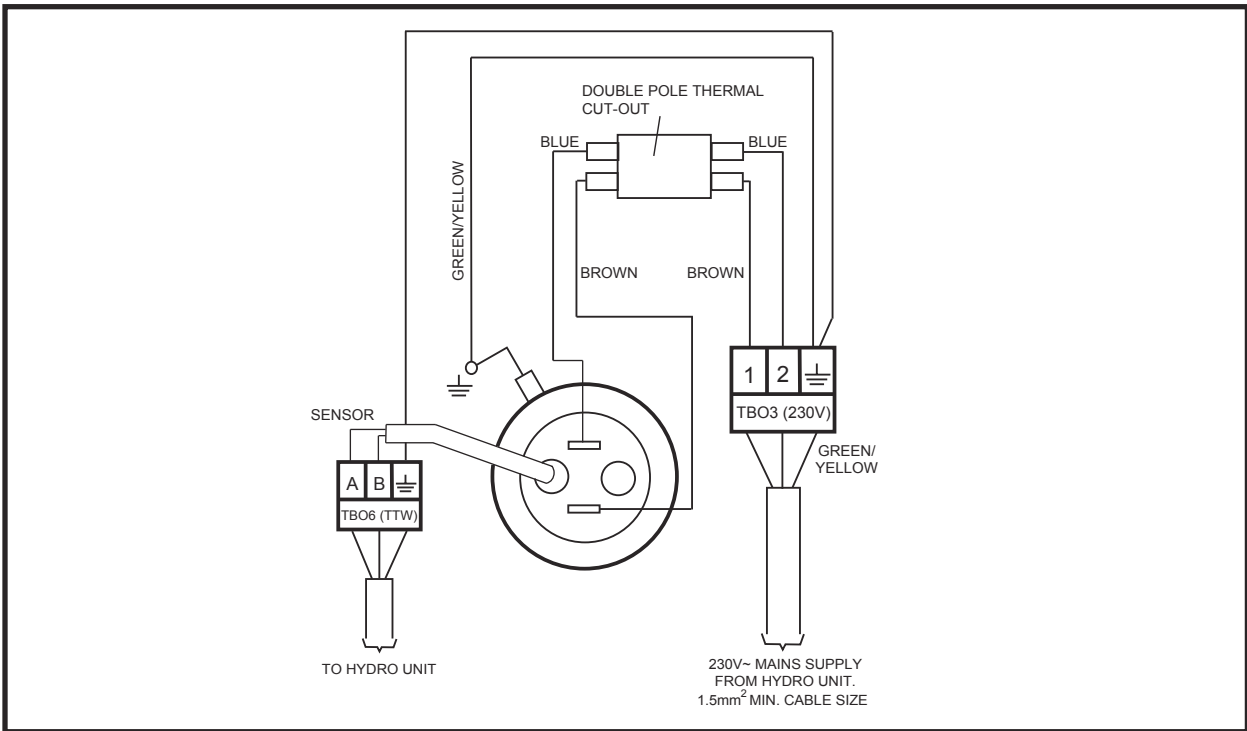

FIG. 6 Electrical Connections (Schematic)
4.2 ELECTRICAL SUPPLY (FIG. 6)
Replace the cylinder heater ensuring the element tails are in the vertical plane (see Fig. 6). Secure in place by re-fitting cylinder heater backnut and tightening. Replace the element tail insulating shroud by carefully pushing it over the element tails until it sits flush with the face of the element mounting plate. Replace the thermal cut-out into the left hand pocket of the cylinder heater. Ensure it is fully inserted and that the capillary tube is not kinked. Ensure the capillary tube is routed such that it does not come into contact with the element tails. Replace the thermal sensor in the left hand pocket of the cylinder heater. Ensure it is fully inserted behind the thermal cut-out, and the securing grommet is pushed into the open end of the pocket.
Refit the cylinder heater wiring links by inserting the male terminations into the female terminals on the element tails in accordance to Figure 6. Check all wiring terminations are tight and secure. Replace and secure the terminal cover.